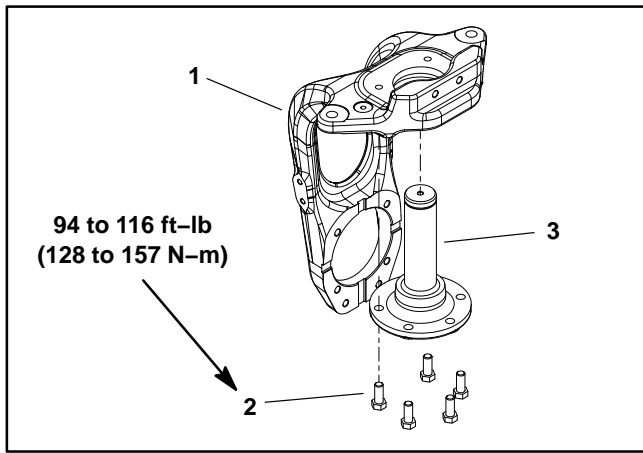

Figure 28
8. Remove the flange head screw (item 21), spindle cap (item 20) and retaining ring (item 19) that secure the steering fork shaft into the axle tube. Slide the steering fork out of the axle tube. Locate and retrieve thrust washers (items 7 and 11) from steering fork spindle.
9. Thoroughly clean the steering fork spindle. Inspect the shaft for wear and replace steering fork spindle if shaft is worn or damaged (Fig. 28). If spindle was removed from steering fork, torque cap screws from **94 to 116 ft-lb (128 to 157 N-m)** during assembly.